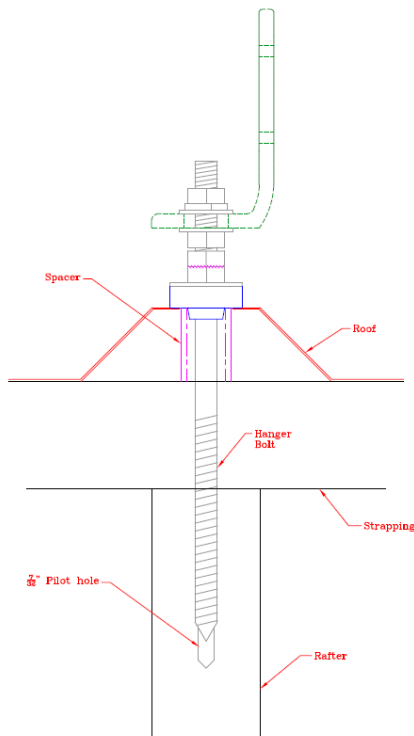

Figure 29 Hanger Bolt Ridge Installation
- i. When installing into the raised portion (Figure 29 Hanger Bolt Ridge Installation) of the roof drill a \varnothing 3/4" hole into the steel portion of the roof only.